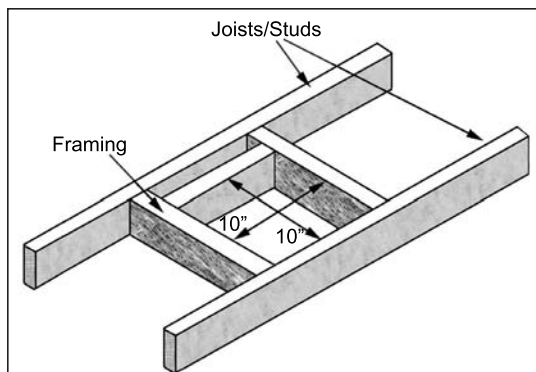
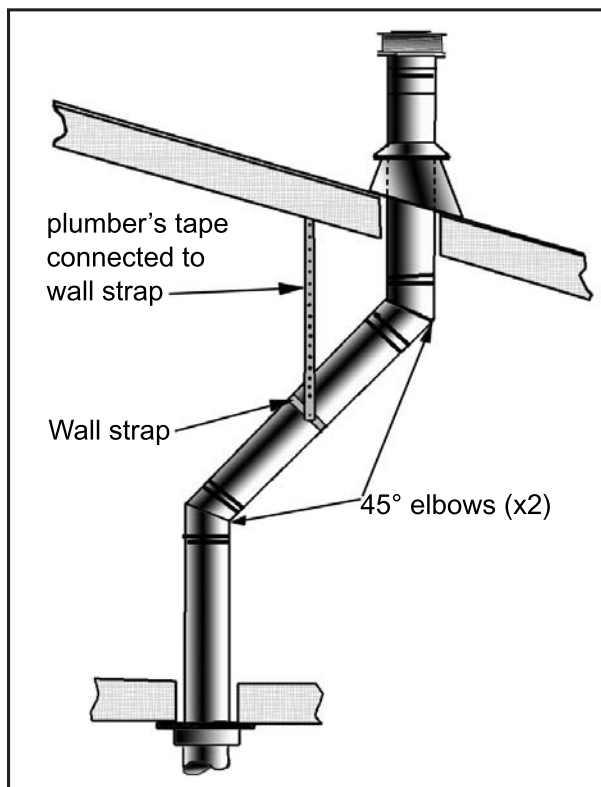

Figure 29. Vent Framing For Wall or Ceiling.
Figure 36: Use of Wall Straps.
4. Frame the hole as shown in Figure 29.
5. Trim the wall thimble to match the wall thickness as necessary. Install the wall thimble and secure it to the inner wall frame using four (4) 1½" wood screws. If a wall is greater than 8" (203mm) in depth, the clearance above the flex must be 4³/₈" (111mm)
A 10" (254 mm) x 10" (254 mm) frame (see Figure 29) will assure the proper support and spacing for the vent pipe as it passes through the wall. Installations in Canada require that a wall thimble be used for passing through walls and ceilings. All sealing and vapour barriers must comply with local building codes.
Step 3. With the pipe in the correct position and attached to the fireplace, mark the wall for a 10 inches (25.4 cm) x 10 inches (25.4 cm) square hole (see Figure 29). The center of the hole should match the center line of the horizontal pipe. Cut and frame the hole in the exterior wall where the vent will be terminated. If the wall being penetrated is made of a non-combustible material (i.e. masonry or concrete) a 7 inches (17.8 cm) hole is acceptable.
Step 3. To install the Round Support Box/Wall Thimble in a flat ceiling, cut a 10 inch (25.4 cm) square hole in the ceiling, centered in the hole drilled in Step 2. Frame the hole as shown in Figure 29.
- (1) If an offset is necessary in the attic to avoid obstructions, it is important to support the vent pipe every 3 feet (914 mm), to avoid excessive stress on the elbows, and possible separation. Wall straps are available for this purpose (see Figure 36).
- (2) When ever possible, use 45° degree elbows instead of 90° degree elbows. The 45° degree elbow offers less restriction to the flow of flue gases and intake air.
- (3) For multi story installations; a ceiling firestop is required at the second floor, and any subsequent floors (see Figure 29). The opening should be framed to 10" (254 mm) x 10" (254 mm) inside dimensions, in the same manner as shown in Figure 29.
- (4) Any occupied areas above the first floor, including closets and storage spaces, which the vertical vent passes through, must be enclosed. The enclosure may be framed and sheet-rocked with standard building materials. However consult the appliance manufactures installation instructions for the minimum allowable clearance between the outside of the vent pipe, and the combustible surfaces of the enclosure. Do not fill any required air spaces with insulation.